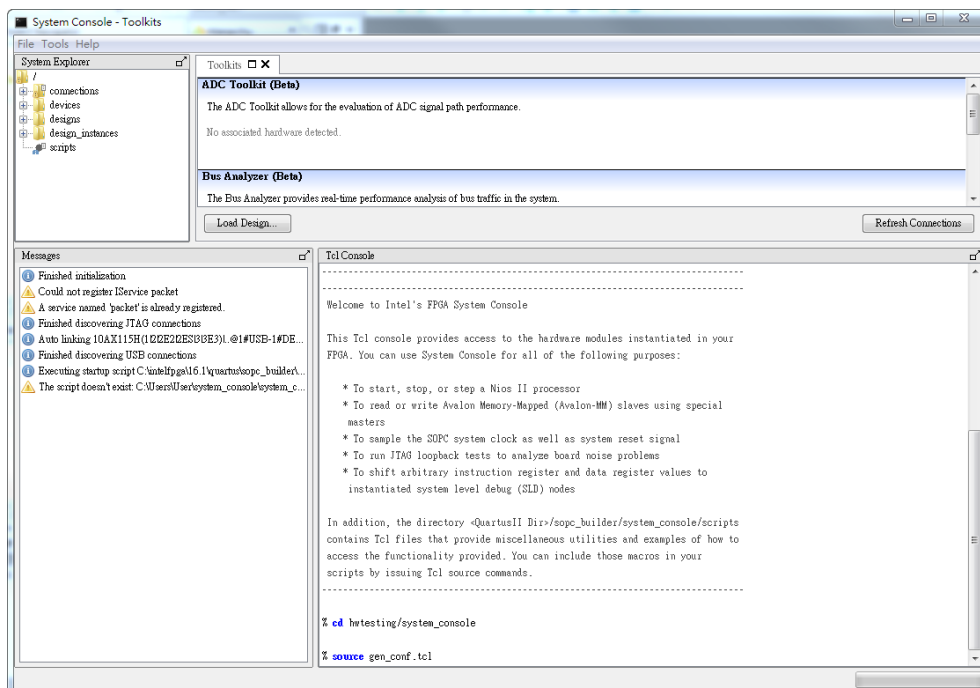

Figure 9-12 Launch the System Console and Start 10GBAE-R Demo
6. In the System Console window, input the following commands to start the loopback test, as shown in **Figure 9-12**. The generator generates and sends about 4 billion packets. Wait 6 minutes for it to complete its tasks.